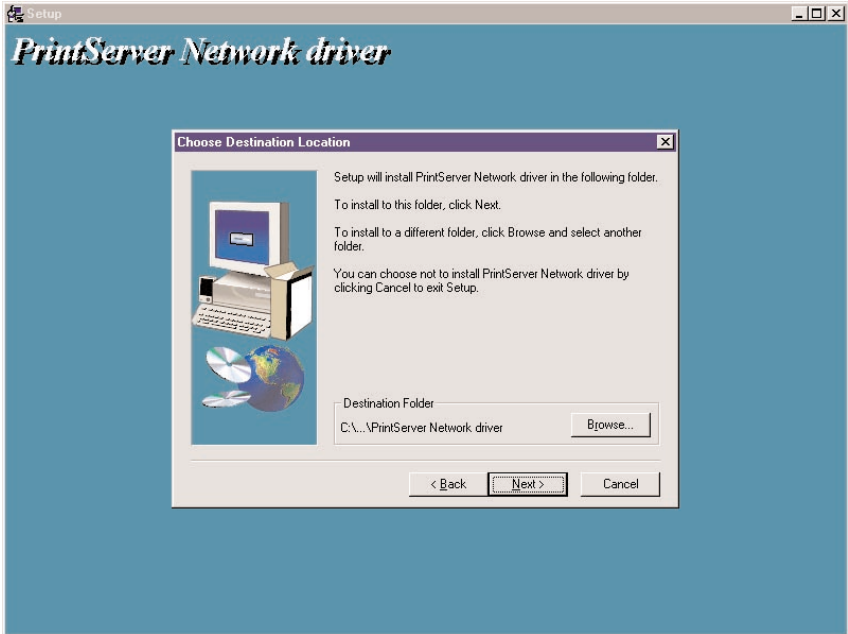

Figure 4-19. Destination folder screen.
4. Click on the **Next** button, and Figure 4-19 appears. To quit setup and close any programs you have running, click on the **Cancel** button.
Click on the **Back** button in Figure 4-19 to go back to the previous screen, or click on the **Cancel** button to cancel your changes.